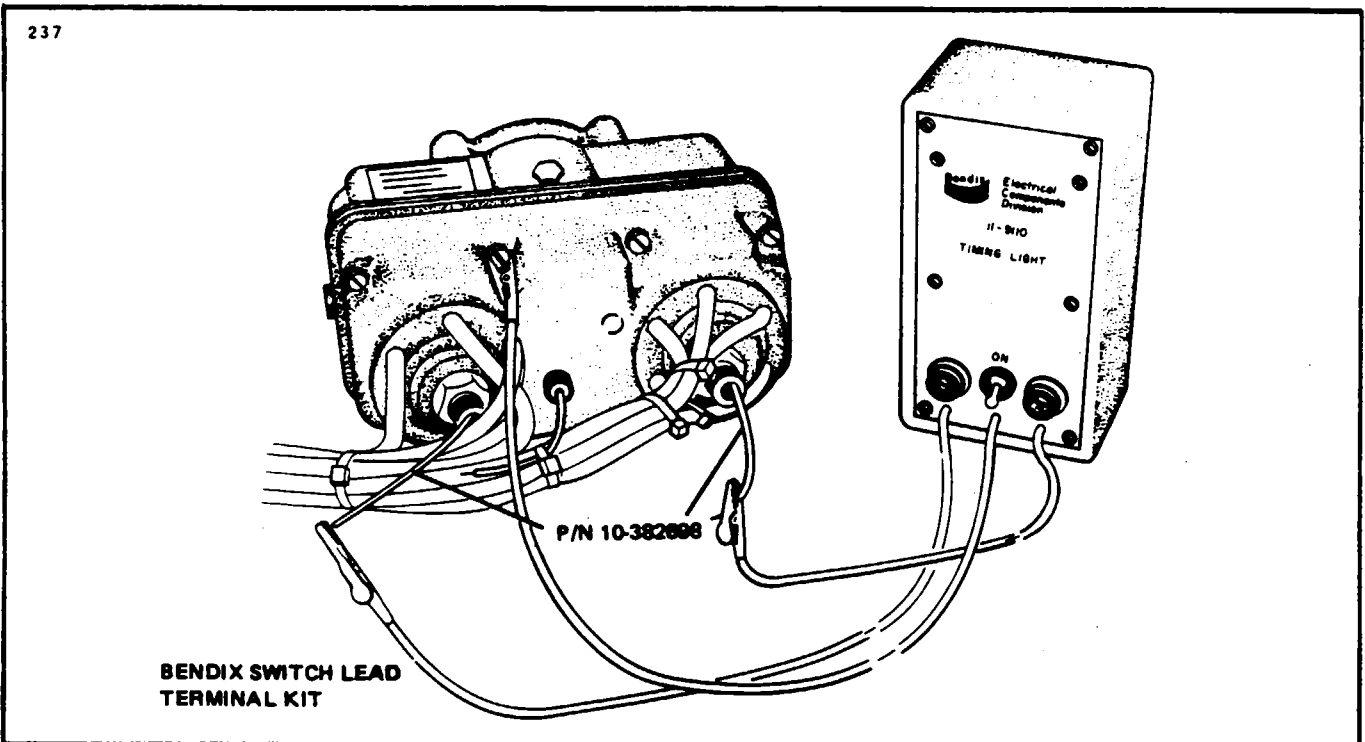

Figure 8-15. Timing Light Connected to Magneto
c. The D2230 series magneto may be mounted to the engine without removing the cover from the magneto. The cover also has switch terminal outlets for the right and left sides of the magneto, located in the center of the harness lead outlet section of the cover. (Refer to Figure 8-15.)
It is recommended that short adapter leads be fabricated to facilitate connecting the timing light unit to the switch outlet terminals of the cover. (Refer to Figure 8-15.)